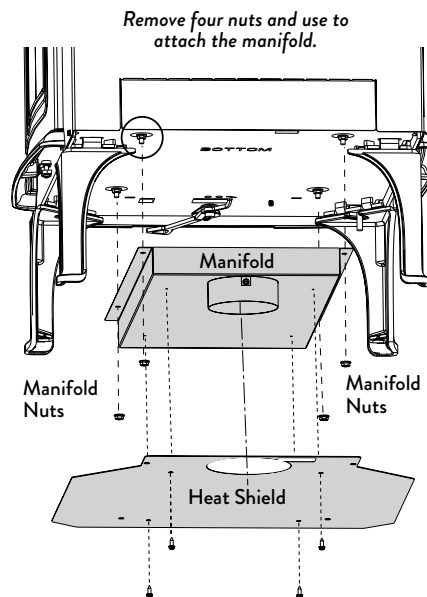

Figure 23. Outside Air Adaptor installation.
1. **Remove Bottom Heat Shield:** Use the 10 mm socket driver or wrench to remove the four nuts and the Bottom Heat Shield from the studs in the stove bottom as shown in fig. 23. Also remove the four remaining spacer nuts from the studs.